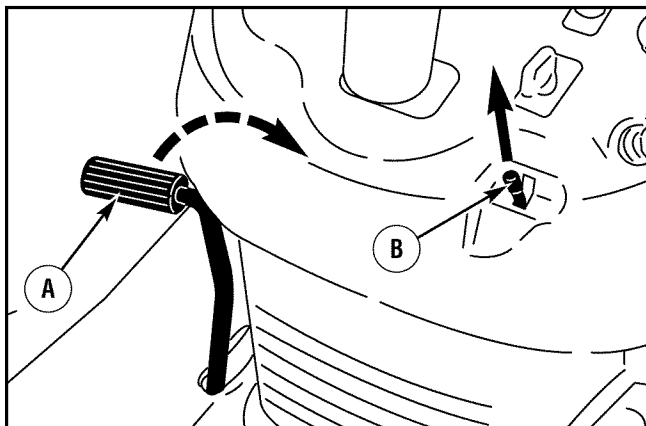

Figure 14: Parking brake
1. The **automatic drive disconnect** must be in the **DRIVE** position (Figure 14).
2. Lift the **parking brake lever** (Figure 14).
**WARNING:** Before you leave the operator's position, move the speed control pedal to the neutral (N) position. Set the parking brake. Move the blade rotation control to the DISENGAGE position. Stop the engine and remove the ignition key.